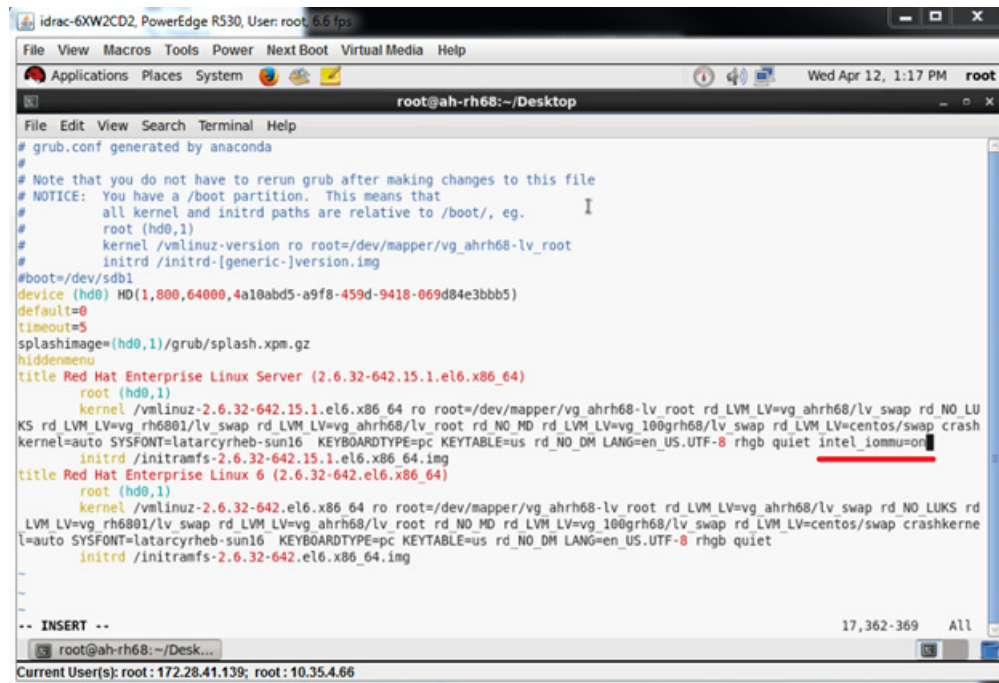

Figure 11-10. Editing the grub.conf File for SR-IOV
- a. Open the `grub.conf` file and configure the `iommu` parameter as shown in Figure 11-10. (For details, see “Enabling IOMMU for SR-IOV in UEFI-based Linux OS Installations” on page 210.)